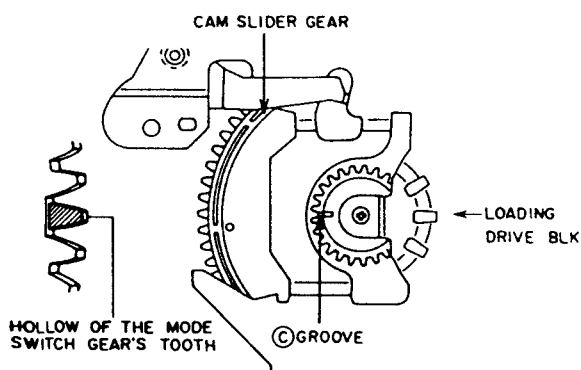

Fig. 3-17
- 2) Attach the MODE SELECT SWITCH to the LOADING DRIVE BLK. At this time, align the hollow of the gear's tooth (reverse side of the © mark) with the © groove of the CAM SLIDER GEAR as shown in Fig. 3-17.